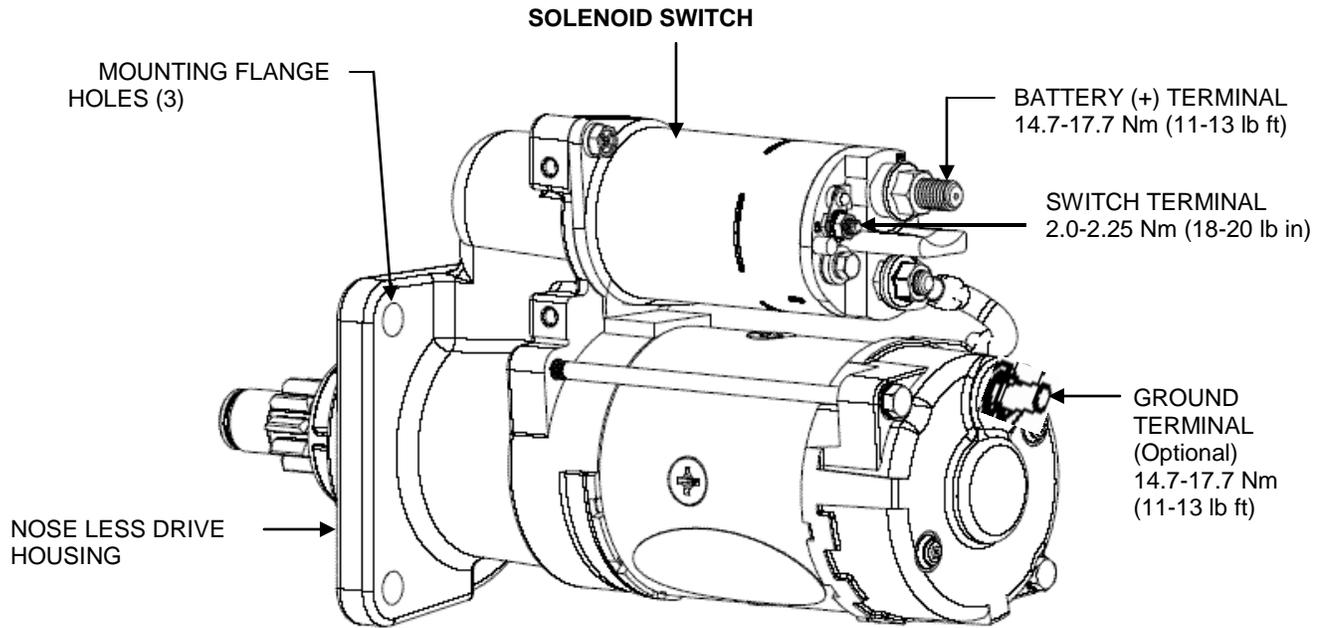

FIGURE 1
**REPLACEMENT PROCEDURES** (See figures 1 & 2, page 2)